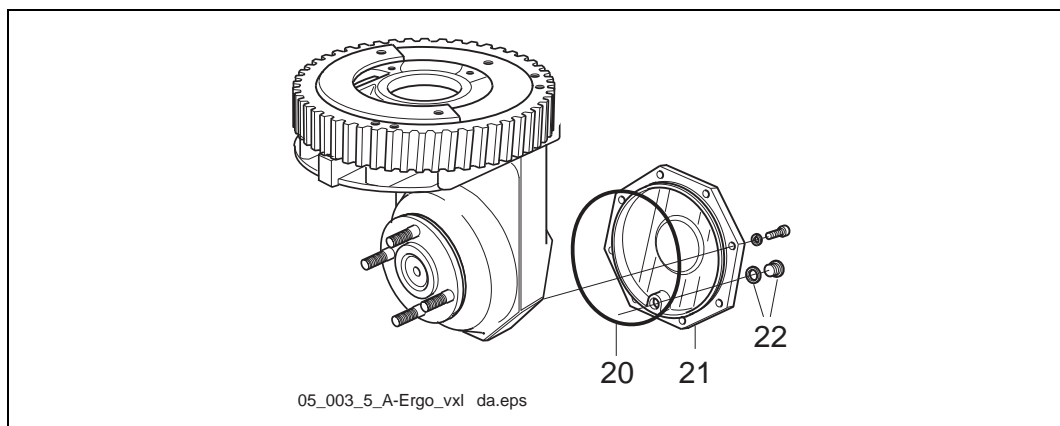

Figure 5.6 Fit the cover.
6. Fit the cover, pos. 21 (see figure 5.6).